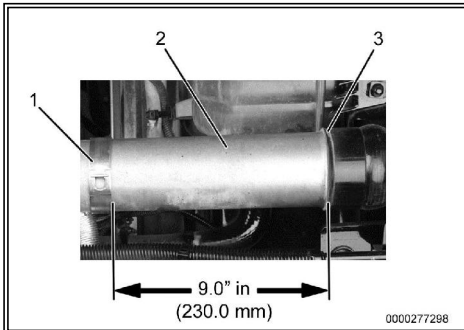

Figure 17: Clamp Measurement.
5. Measure approximately 9.0 in (230 mm) on CAC pipe (Figure 17, Item 2) from end of CAC rubber boot (Figure 17, Item 3) towards rear of vehicle for clamp (Figure 17, Item 1) installation.